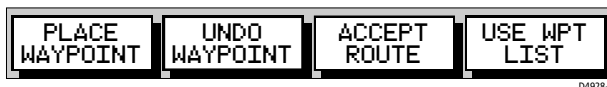

Figure 3-34: Make Route Soft Keys
4. Press the MAKE ROUTE soft key; the make route soft keys are displayed as shown in *Figure 3-34*.